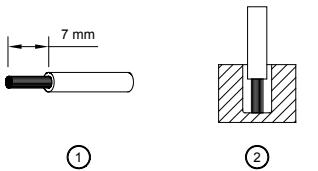

Figure 5
You can use flexible (stranded wire) or solid cables with cross section 0.52-3.3mm² (AWG 20-12) and torque of 4.67 kgf.cm (4.05 lb in). To secure reliable and shock proof connections, the stripping length should be 7 mm (see Fig. 5 (1)). Please ensure that wires are fully inserted into the connecting terminals as shown in Fig. 5 (2).